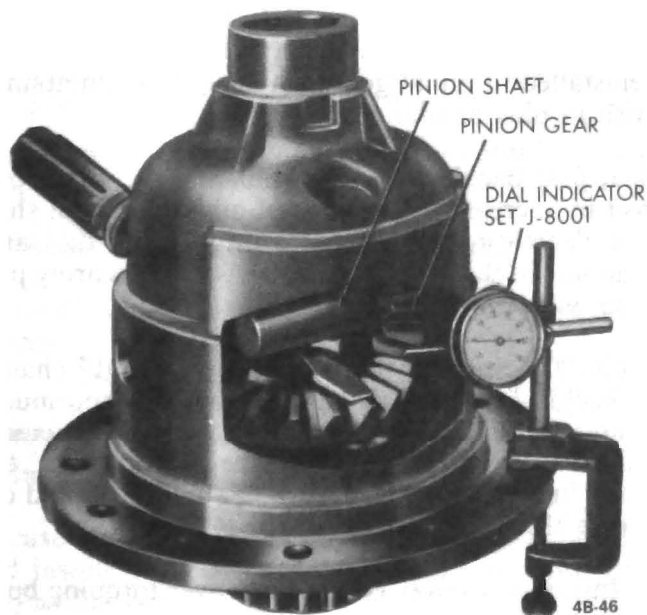

Figure 4B-46 Checking Side Gear to Pinion Gear Backlash
a. Compress one clutch pack by inserting screwdriver or wedge between the cross shaft and side gear. See Figure 4B-46.